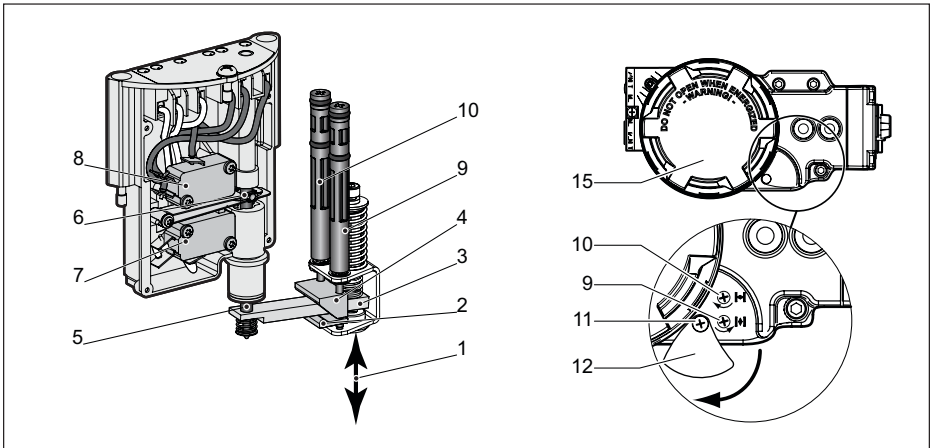

Fig. 5.2 Working principles Switch Operating Mechanism
The QC40 ASI Control Module is equipped with non-intrusive switch point adjustment. The adjustment screws are accessible behind a shield in the front of the module (see Figure 5.2).
- In this case the top adjustment screw (see Figure. 5.2), sets the switch point of the "Closed" position and bottom adjustment screw sets the switch point of the "Open" position.
5.1.5 Working principles Switch Operating Mechanism (see Figure 5.2)